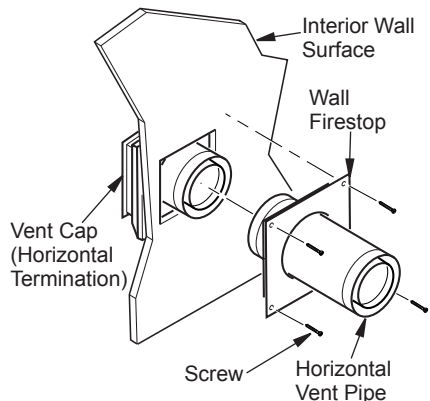

Figure 12 - Connecting Vent Cap with Horizontal Vent Pipe
- Combustible Exterior Wall Only:** Slide the wall firestop over the vent pipe before connecting horizontal run to vent cap (see Figure 12).